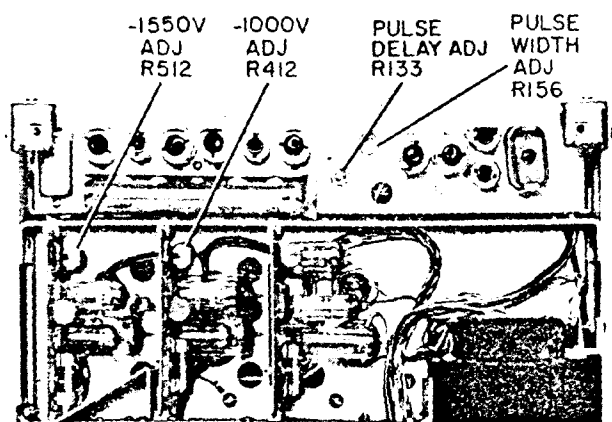

Figure 5-7. Location of Power Supply and Modulator Adjustments
e. Adjust potentiometer R412 (Figure 5-7) for  $-1000 \pm 20$  volts. Line voltage regulation ( $115 \text{ V} \pm 10\%$ ) should hold the  $-1000 \text{ V}$  supply to within  $\pm 5 \text{ V}$ ; ripple should be less than 10 mV, p-p. The  $-300 \text{ V}$  supply could track the  $-1000 \text{ V}$  supply to  $-300 \pm 10 \text{ V}$ . Line voltage regulation ( $115 \text{ V} \pm 10\%$ ) should hold the  $-300 \text{ V}$  supply to within  $\pm 5 \text{ V}$ ; ripple should be less than 10 mV, p-p.
g. Adjust potentiometer R512 (Figure 5-7) for  $-1550 \pm 20 \text{ V}$ . Line voltage regulation ( $115 \text{ V} \pm 10\%$ ) should hold the  $-1550 \text{ V}$  supply to within  $\pm 5 \text{ V}$ ; ripple should be less than 15 mV, p-p.
d. Adjust potentiometer R133 (Figure 5-7) to give a delay of 300  $\mu$ s as measured on the calibrated Oscilloscope.